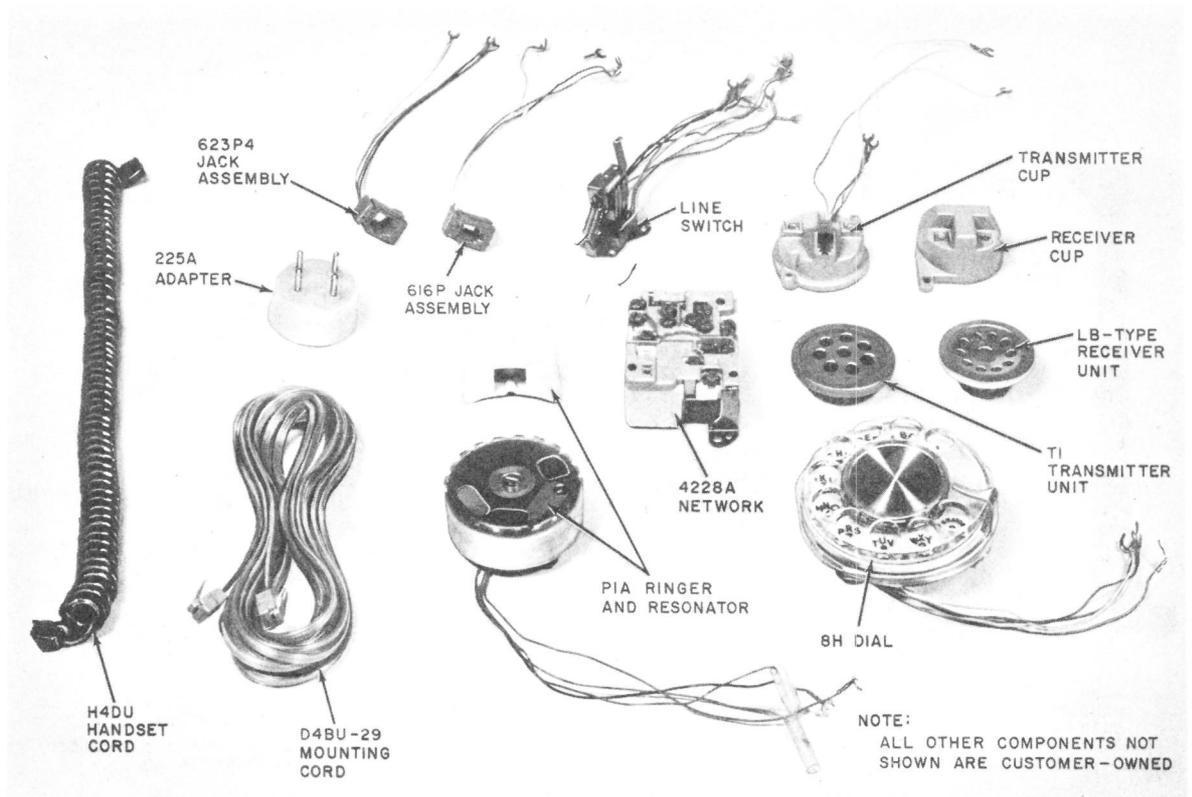

Fig. 4—Telephone Company-Owned Components (Set Equipped with a Rotary Dial)
- Add new Fig. 4 and 5, telephone company-owned components
4.01 When it is desired to discontinue telephone service of the 900A or 2900A DESIGN LINE telephone set, remove the telephone company-owned components that are screwed to the base or can otherwise be easily removed. Refer to Fig. 4 and